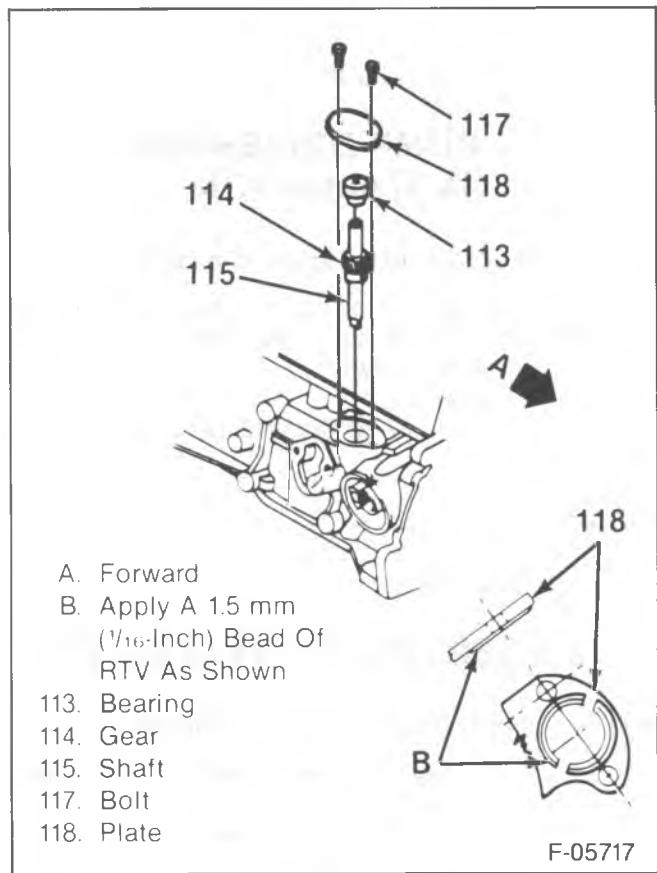

Figure 52—Oil Pump Drive Shaft
2. Bearing (113).
3. Plate (118). Apply RTV to the plate as shown in figure 52.
4. Bolts (117).